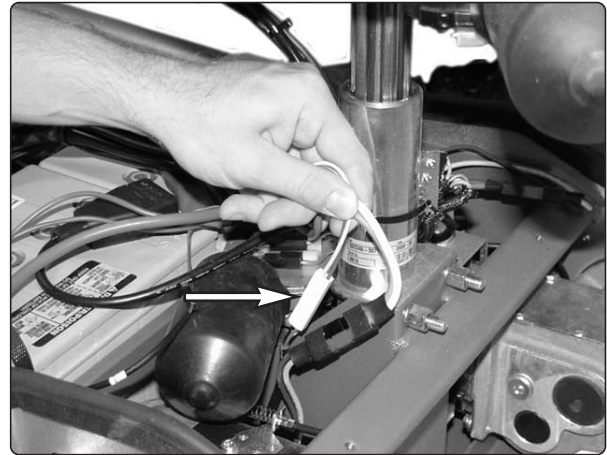

Fig.15. Magnetic brake electrical connector.
5. Disconnect the magnetic brake electrical connector, see fig. 15.